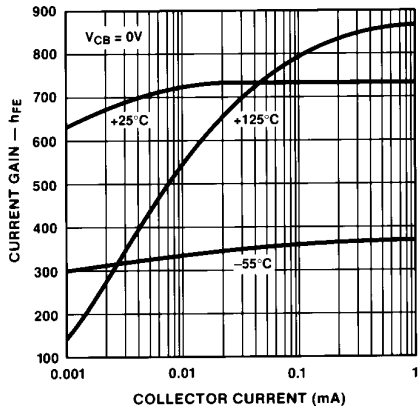

Figure 1. Current Gain vs. Collector Current
Returning to the multiplier/divider circuit of Figure 1 and using Equation (4):